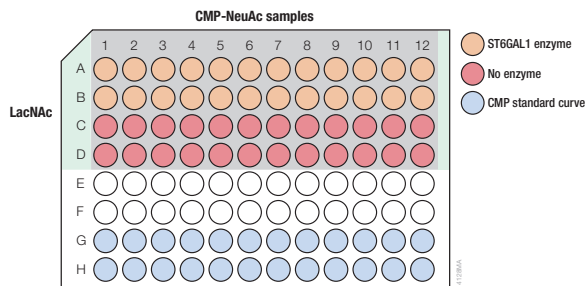

Figure 8. CMP-NeuAc titration in a 96-well plate.
1. Following the plate setup in Figure 8, transfer 25 μ l of CMP standard serial dilution in duplicate into the wells designated for the standard curve.